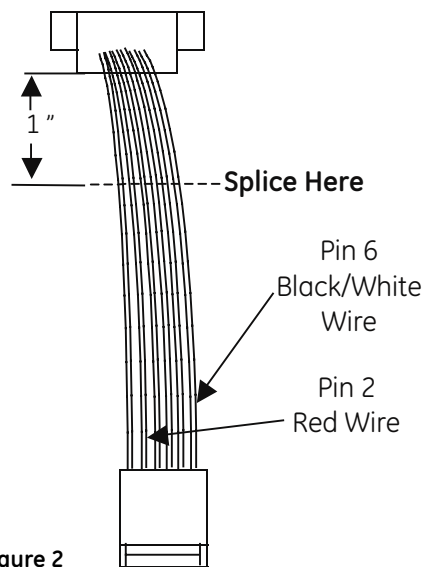

Figure 2
**If there is NO heater kit installed** on the ice duct door, attach heater wires to red wire on pin 2 and black and white wire on pin 6. Attach splices 1" from the grommet where the wires come out of the top of the dispenser recess. **See Figure 2.**